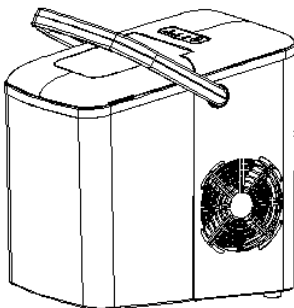

Fig.2
- 2) Make the handle align with the holes at the housing and release the hands, then the handle is inserted into the holes of housing (see Fig.2).